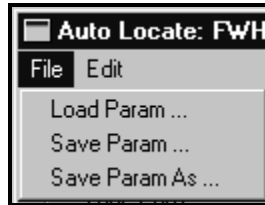

Figure 3-106. Auto Locate Dialog - File Menu
The **Auto Locate** dialog contains two (2) menu selections, **File** and **Edit**, as shown in Figure 3-106. The **File** menu contains three (3) selections, which are discussed below.
- ❑ **Auto Locate > File > Load Param ...:** Selecting **Load Param ...** from the **File** menu on the **Auto Locate** dialog shown in Figure 3-106 displays a standard **Open** dialog. Any previously saved **Auto Locate** parameter file (.loc) may be loaded (opened) and used as desired.
- ❑ **Auto Locate > File > Save Param ...:** Selecting **Save Param ...** from the **File** menu on the **Auto Locate** dialog shown in Figure 3-106 saves the currently open parameter file along with any changes to the same file name. If no file name has been assigned to the current parameter file, clicking **File > Save Param ...** saves the current parameter settings to `\corestar\config\auto_locate\default.loc`.
- ❑ **Auto Locate > File > Save Param As ...:** Selecting **Save Param As ...** from the **File** menu on the **Auto Locate** dialog shown in Figure 3-106 displays a standard **Save As** dialog which allows the user to assign a new name to the current parameter file. Furthermore, the file may be saved to the default directory as well as any other drive and/or directory as desired.